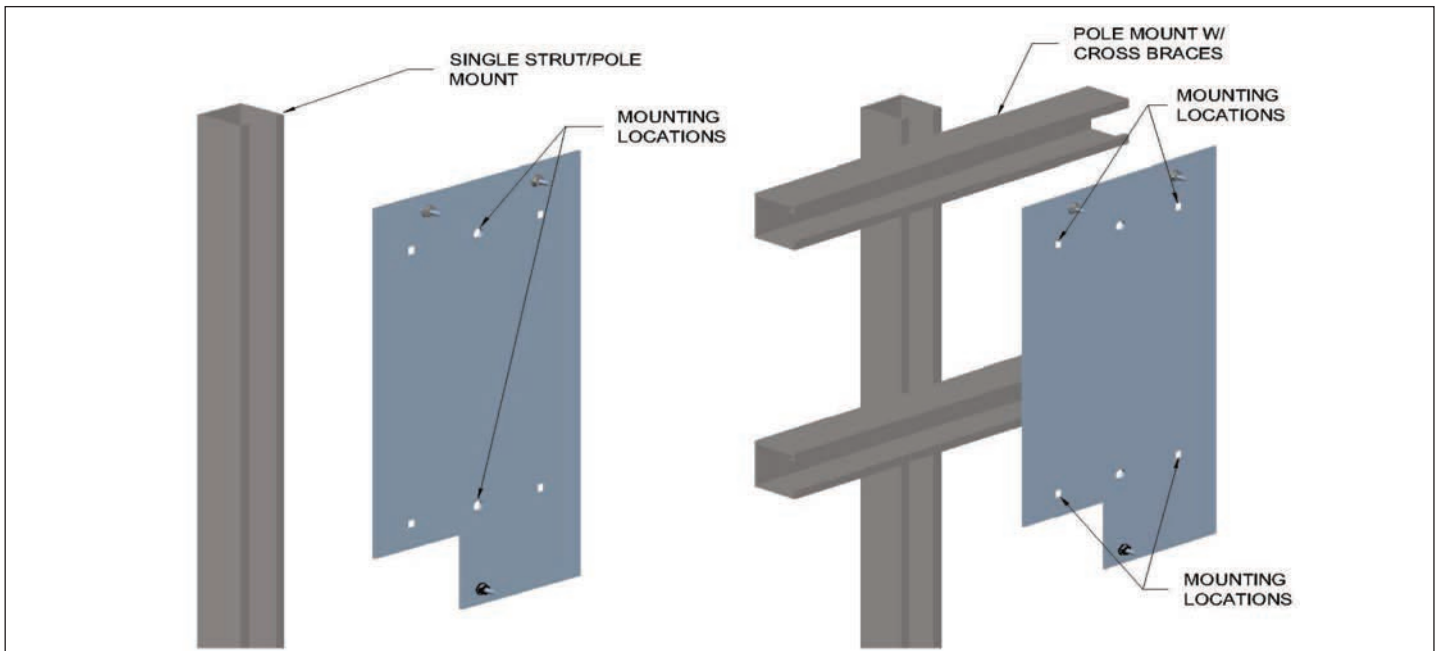

Figure 12. Typical Uni-Strut Mounting.
- Step 3:** Attach mounting plate using as shown in Figure 12. Use appropriate hardware making sure it is galvanized or stainless steel for weather protection if mounting outdoors.